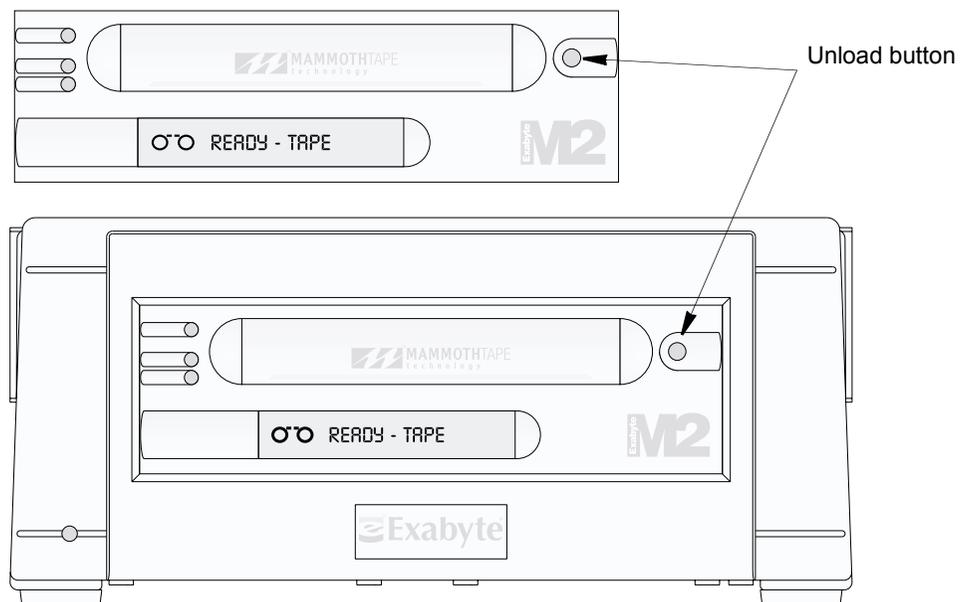

Figure 3-6 Location of the unload button on the front of the tape drive
1. Press the unload button, shown in Figure 3-6. **Do not press and hold the unload button for more than 10 seconds; this can cause a reset under certain conditions.**